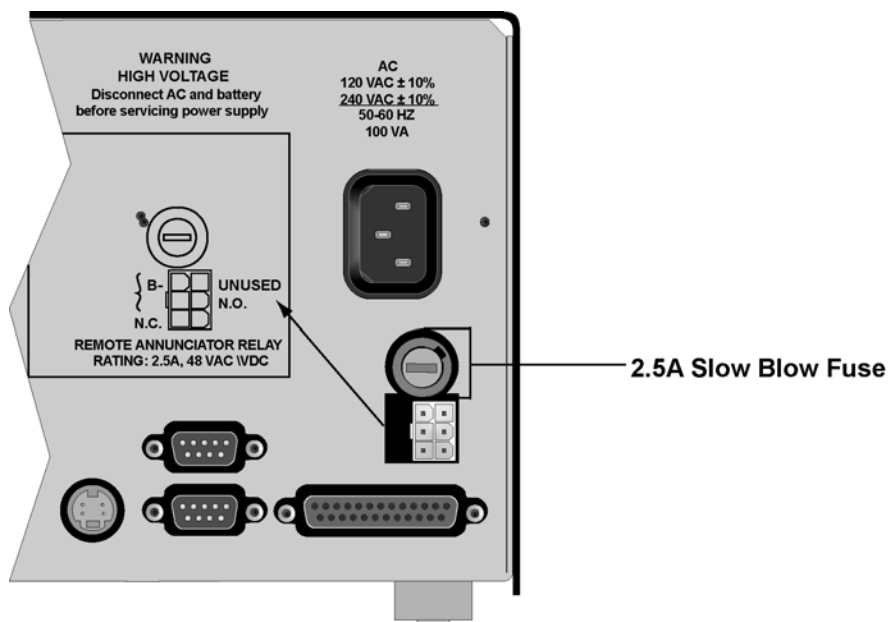

Figure 7-1 Replacing the Power Supply Fuse
2. Locate the fuse cap on the back of the 9500 as shown in Figure 7-1.